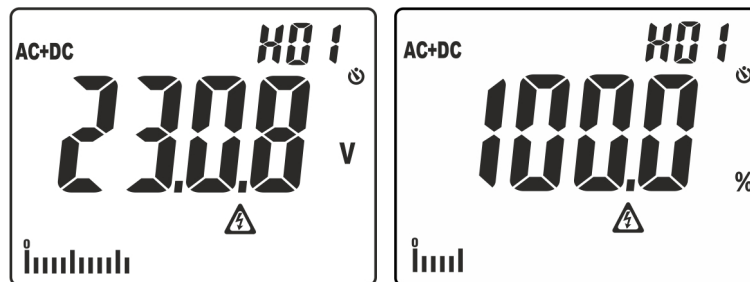

Fig. 3: Display of amplitude of harmonic analysis
- Simple pressing of the key to display the amplitude of voltage and current harmonics up to the 25th (**Hdc**, **H01... H25**) in absolute or percentage format in relationship with the fundamentals of input signals (for voltage values  $V_{AC} > 0.5V$  and current values  $AC > 0.5A$  and frequency in the range  $42.5Hz \div 69Hz$ ) and the percentage value of parameter **THD%** (see § 9.3) as shown in Fig. 3. Use keys  $\blacktriangle/ZERO$  and  $\blacktriangledown/\text{I}$  to increase/decrease the order of the harmonic.